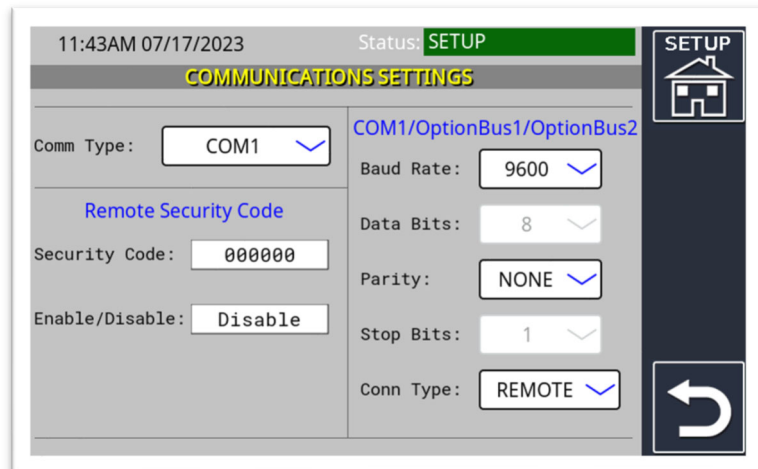

Figure 14.1
(See Figure 14.1)
- e) **Data Bits:** Factory set at 8. This cannot be changed. (See Figure 14.1)